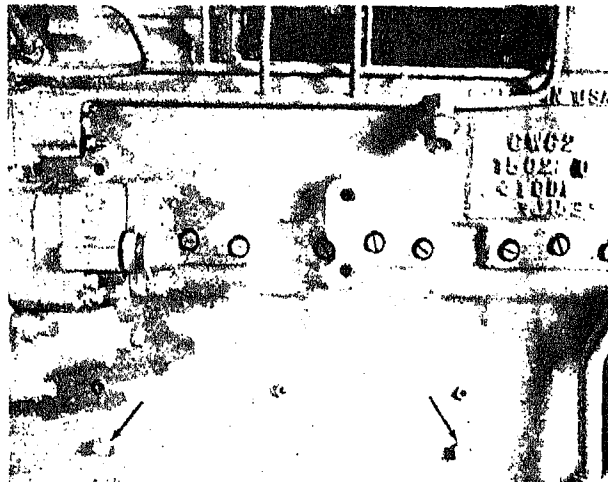

Fig. 14-2-1. Lubricating system priming point with bag-type filter N214
- a. When engine equipped with "bag-type" full-flow lubricating oil filter is used, priming point is on side of block, Fig. 14-2-1.